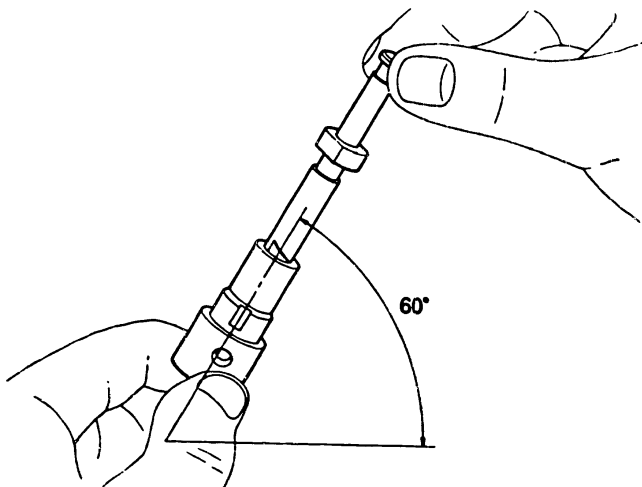

Fig. 41 Plunger inspection
2. After washing the plunger assembly in clean fuel oil, tilt the plunger assembly to approximately 60° , as shown in Figure 41. If the plunger slides down smoothly into the plunger barrel under its own weight, the condition of the assembly is considered satisfactory.